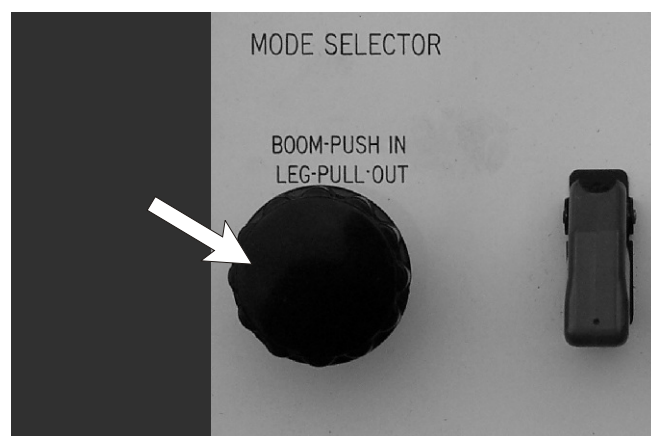

Figure 7.8 - Boom / Stabiliser Selector Switch
4. **Boom / Stabiliser Selector Switch:** Push this switch in to select BOOM operation and pull it out to select STABILISER operation (see Figure 7.8).